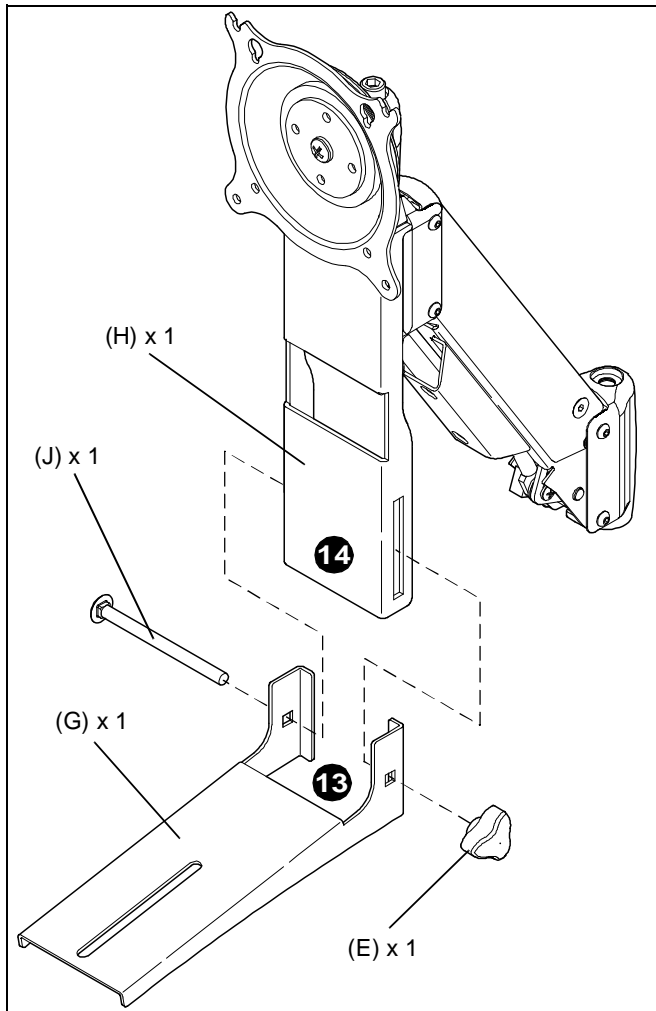

Figure 2
13. Orient horizontal tray mounting bracket (G) as shown in figure below. (See Figure 2)
14. Secure horizontal tray mounting bracket (G) to vertical tray mounting bracket (H) using one carriage bolt (J) and one knob (E). (See Figure 2)